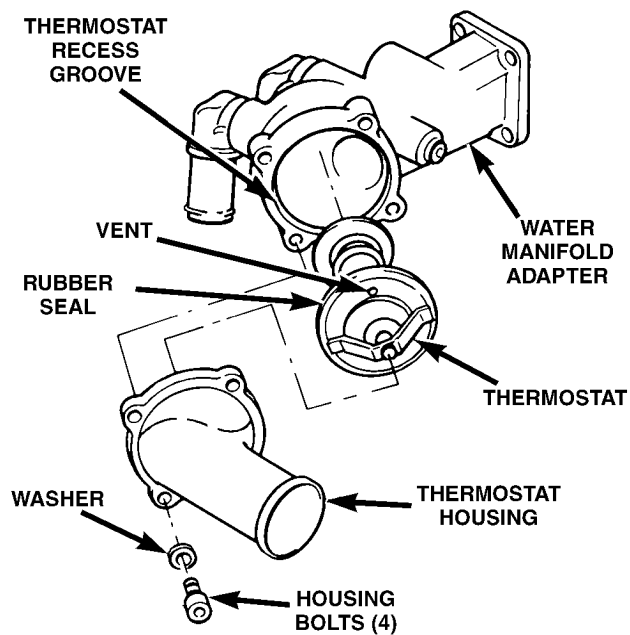

Fig. 18 Thermostat Removal/Installation
- (2) Remove the upper radiator hose at the thermostat housing.
- (3) Remove the four thermostat housing bolts (Fig. 18)
- (1) Install a new rubber seal around the outer lip of the thermostat (a notch is provided in the rubber seal). Do not apply any adhesive to this seal.
- (2) Install the replacement thermostat and rubber seal as one assembly into the water manifold adapter (the pointed end of the thermostat should be facing towards the front of engine (Fig. 18). Observe the recess groove in the water manifold adapter. Be sure the thermostat vent is in the 12 o'clock position (Fig. 18).
- (3) Position the thermostat housing and four bolts to the water manifold.